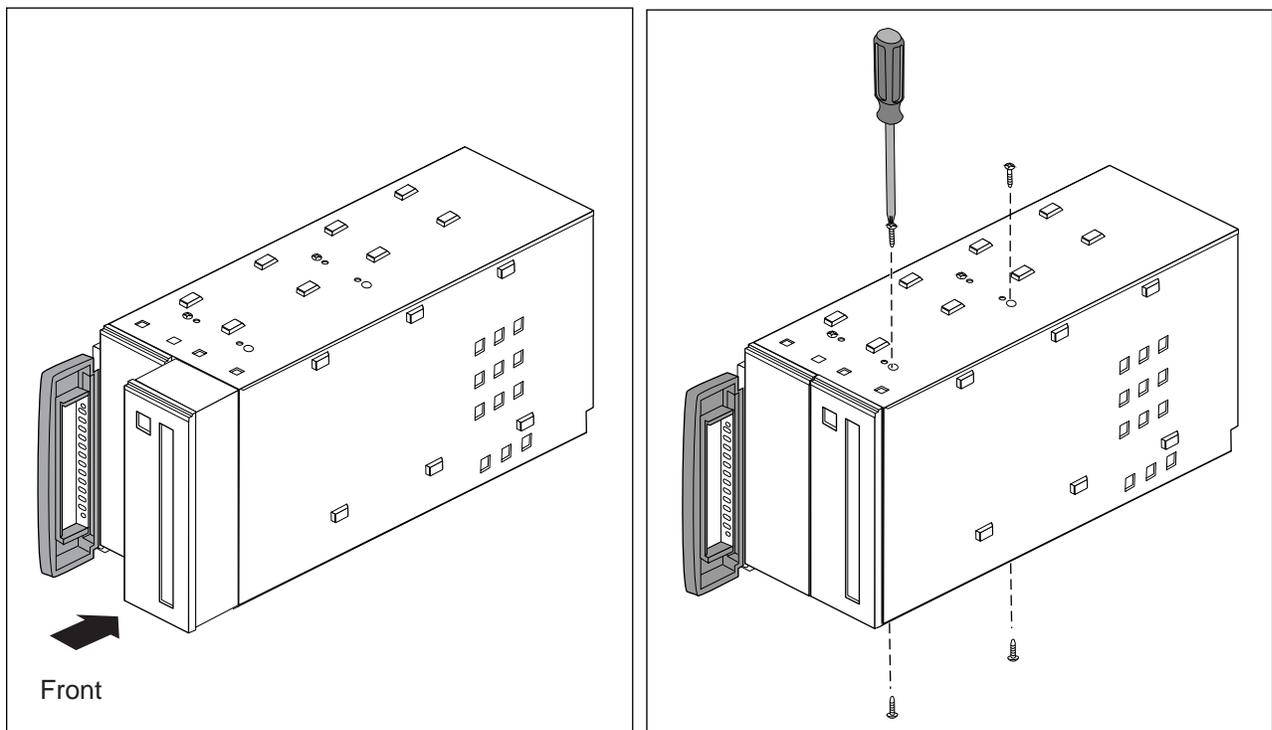

Figure 2-9 Inserting a 5.25-Inch Drive in the Peripheral Carrier
3. Slide the drive into the peripheral carrier and attach it with four screws through the side of the carrier, as shown in Figure 2-9.